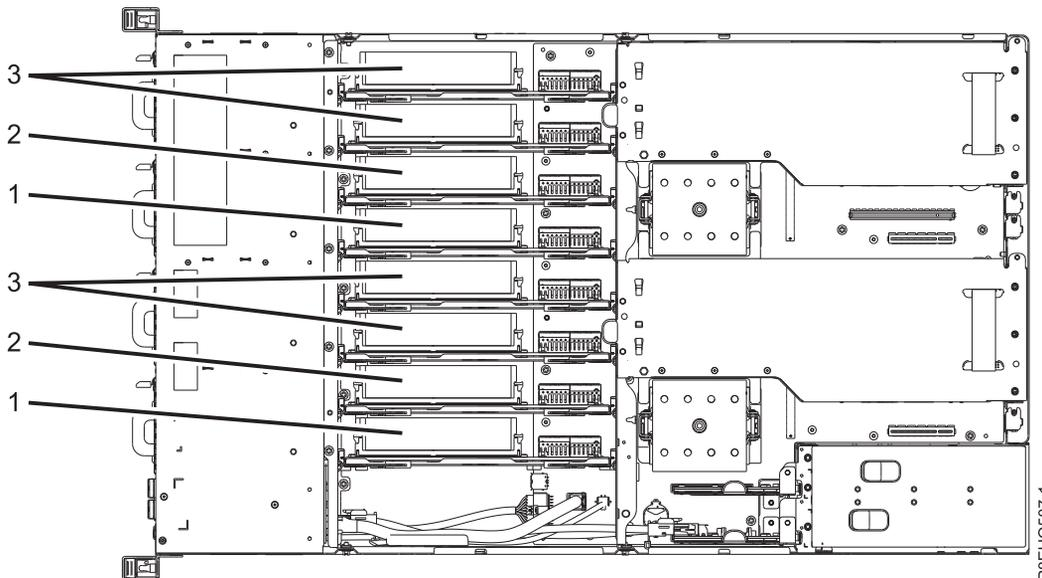

Figure 34. 8335-GCA memory riser installation sequence
The memory risers need to be installed in a sequence: (1), then (2), then (3), as shown in Figure 34. By default, the first positions (1) are always populated.